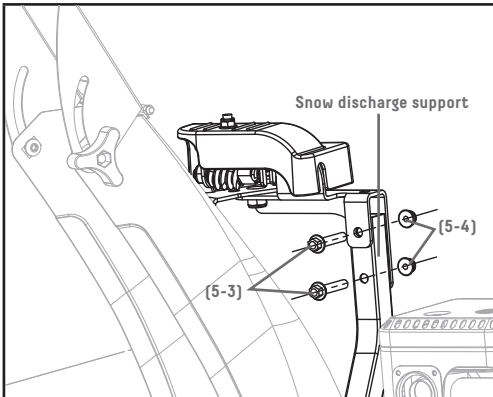

Figure 9B
3. Put the snow discharge chute on the base of unit's body. Tighten the component on the snow discharge support using bolts (5-3) (Fig. 9B) and nuts (5-4) (Fig. 9B).